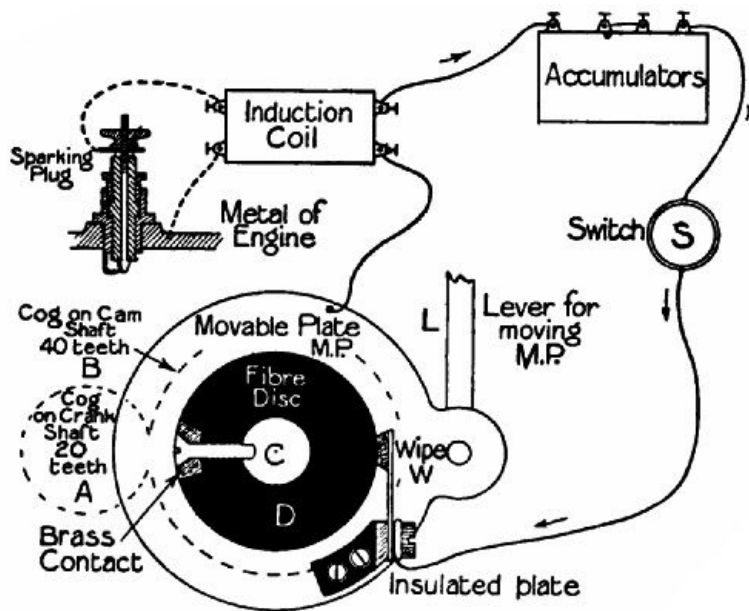
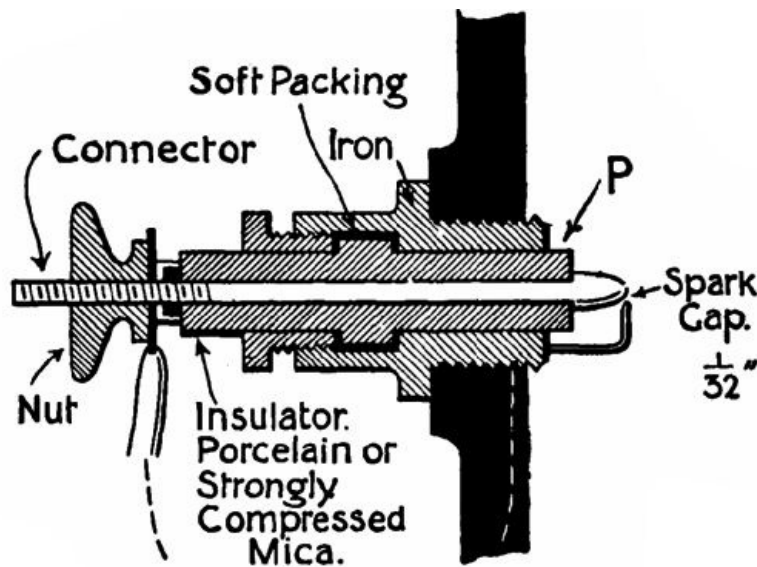

FIG. 45.—Sketch of the electrical ignition arrangements on a motor car.
FIG. 46.—Section of a sparking-plug.
All petrol-cars now use electrical ignition. There are two main systems—(1) by an accumulator and induction coil; (2) *magneto ignition*, by means of a small dynamo driven by the engine. A general arrangement of the first is shown in Fig. 45. A disc, *D*, of some insulating material—fibre or vulcanite—is mounted on the cam, or half-speed, shaft. Into the circumference is let a piece of brass, called the contact-piece, through which a screw passes to the cam shaft. A movable plate, *M.P.*, which can be rotated concentrically with *D* through part of a circle, carries a "wipe" block at the end of a spring, which presses it against *D*. The spring itself is attached to an insulated plate. When the revolution of *D* brings the wipe and contact together, current flows from the accumulator through switch *S* to the wipe; through the contact-piece to *C*; from *C* to *M.P.* and the induction coil; and back to the accumulator. This is the *primary, or low-tension, circuit*. A *high-tension* current is induced by the coil in the *secondary circuit*, indicated by dotted lines.[10] In this circuit is the sparking-plug (see Fig. 46), having a central insulated rod in connection with one terminal of the secondary coil. Between it and a bent wire projecting from the iron casing of the plug (in contact with the other terminal of the secondary coil through the metal of the engine, to which one wire of the circuit is attached) is a small gap, across which the secondary current leaps when the primary current is broken by the wipe and contact parting company. The spark is intensely hot, and suffices to ignite the compressed charge in the cylinder.
We will assume that the position of *w* (in Fig. 45) is such that the contact touches *w* at the moment when the piston has just completed the compression stroke. Now, the actual combustion of the charge occupies an appreciable time, and with the engine running at high speed the piston would have travelled some way down the cylinder before the full force of the explosion was developed. But by raising lever *L*, the position of *w* may be so altered that contact is made slightly *before* the compression stroke is complete, so that the charge is fairly alight by the time the